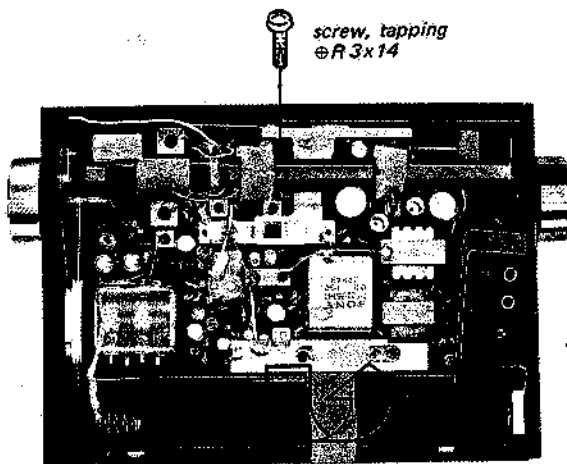

Fig. 1-2.
1. Remove the screw shown in Fig. 1-2.